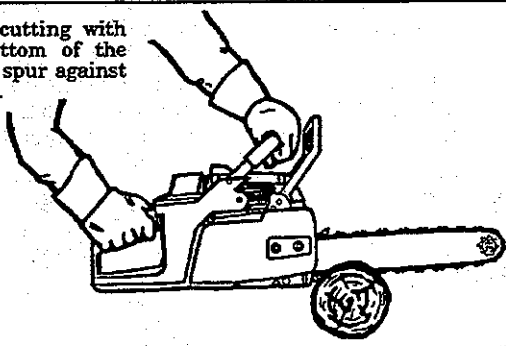

Figure 16
- b. **Begin cutting with the saw frame or spur against the log.** Figure 16.